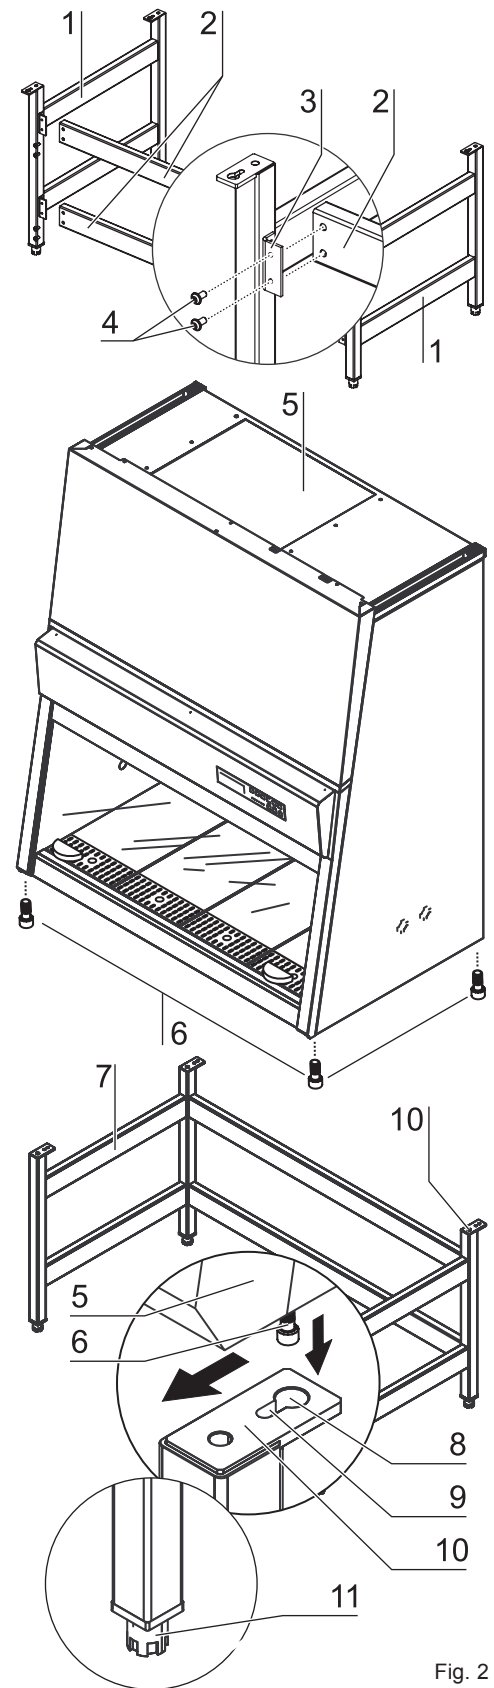

Fig. 2
1. **Fig. 2:** Slide the two crossmembers [2] onto the retaining angles [3] of the side panels [1], then secure the crossmembers to the two side panels using the screws [4].